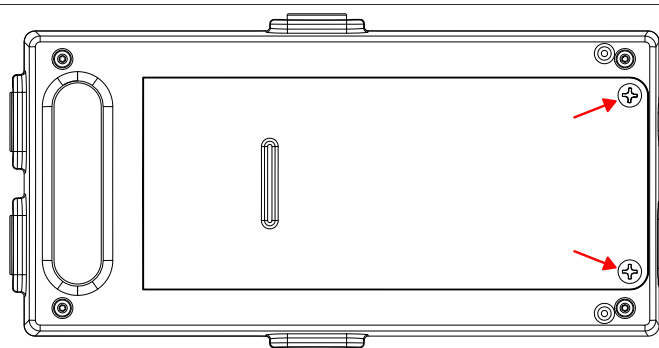

Figure 1: Position of battery door screws.
The battery compartment is located on the back of the sensor, as shown in Figure 1. If the battery needs to be replaced, you can do so using the 3.7V 1000 mAh Lithium Replacement Battery (PS-3290). To install the new battery in the sensor:
1. Use a Phillips screwdriver to remove the screws from the battery door (see Figure 1), then remove the door.